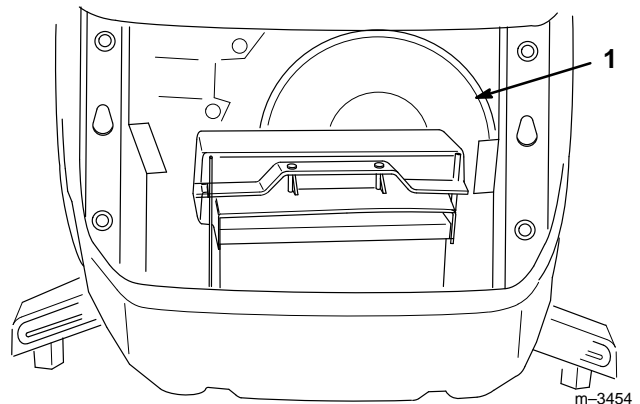

Figure 20
7. Remove the belt from around the PTO pulley (Fig. 20). Additional belt slack can be obtained (if needed) by turning the belt tension adjustment knob.